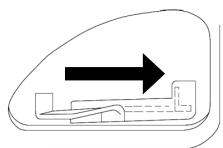

Fig. 13
5. Turn the choke lever to the "OPEN" position. (Fig. 13)